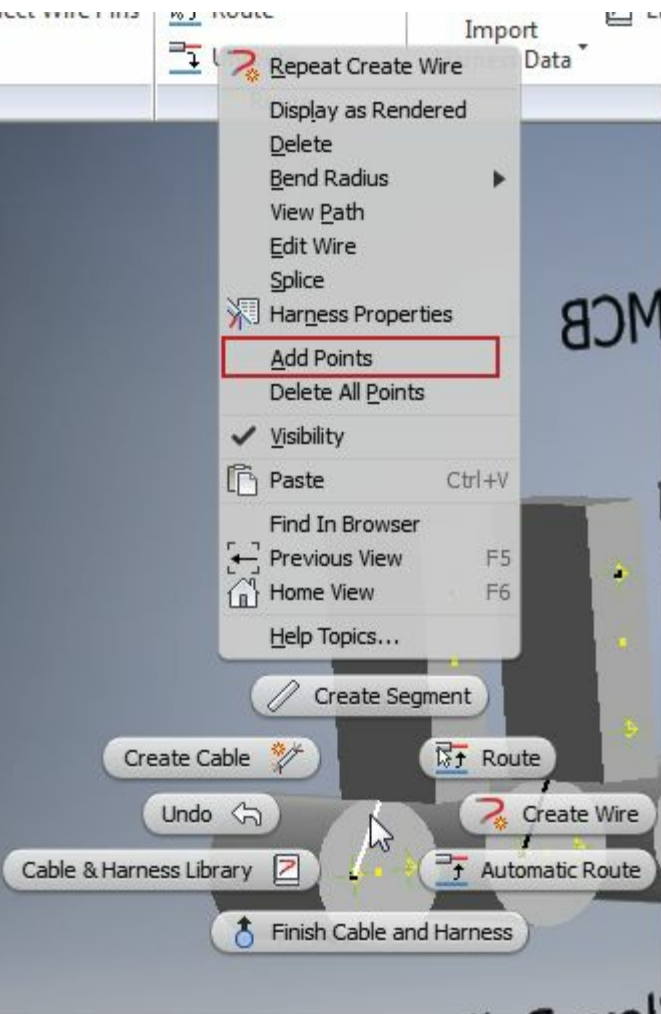

Figure-42. Shortcut menu for wires
- Right-click on the wire. A shortcut menu will be displayed; refer to Figure-42.